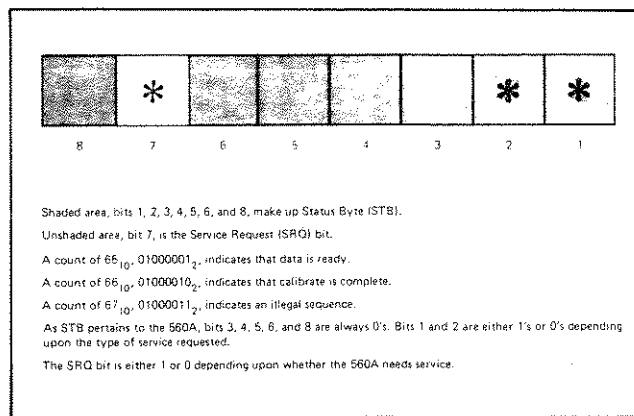

Figure 3-19. Request Service Bit and Status Byte
2. Interrupt mode command IM also uses the flowcharted process of Figure 3-18 for data conversion. However, in this mode, instead of delaying bus operation by holding up the handshake when addressed to talk, the Service Request (SRQ) control line is used. This line is set TRUE (low) to indicate an instrument needs service. When the controller senses that SRQ is TRUE, it sets ATN TRUE and sends a serial poll enable message to all instruments. When the 560A receives this message, it responds when next addressed to talk with an appropriately-coded Status Byte (STB). The status byte and request service bit are shown in Figure 3-19.